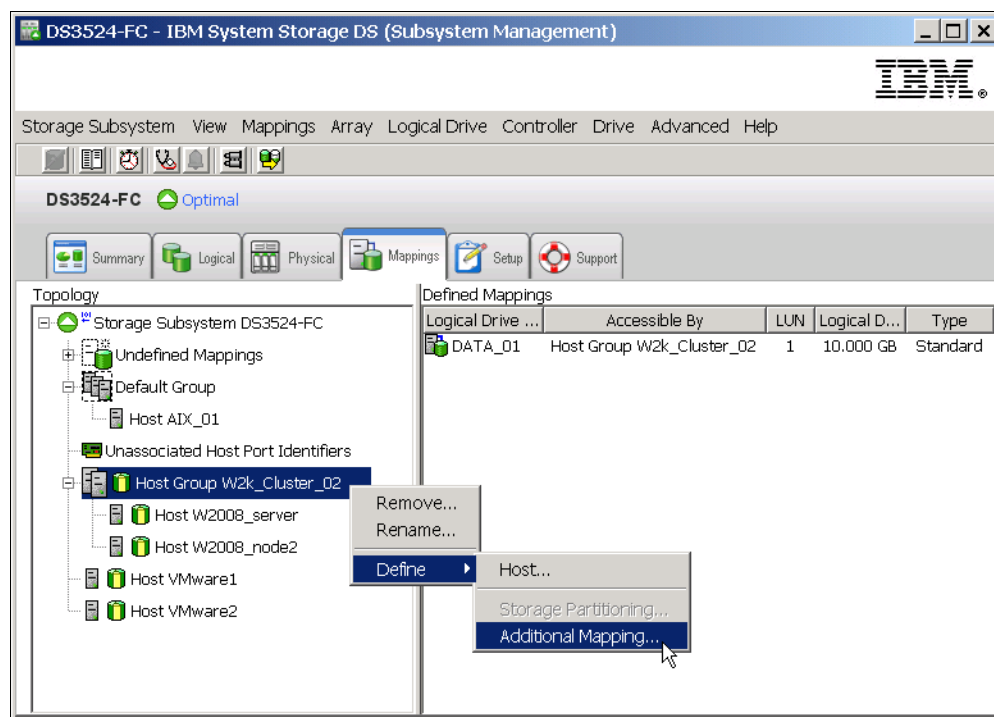

Figure 11-21 Define Additional Mapping
1. Right-click the host or host group to which you want to map a new logical drive and select **Define** → **Additional Mapping**, as shown in Figure 11-21 on page 292. You can also select a Logical drive in Undefined mappings section of the Topology tree, right-click it, and select **Define Additional Mapping** to continue.